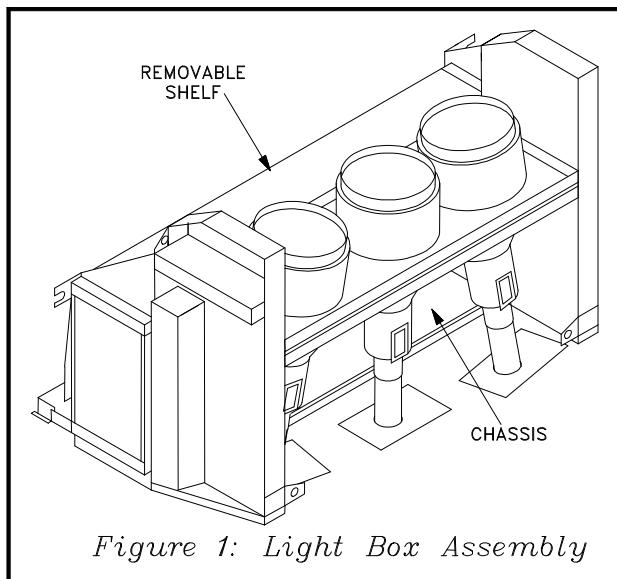

Figure 1: Light Box Assembly
- 2) The shelf in the front of the Light Box Assembly is removable, refer to Figure 1.